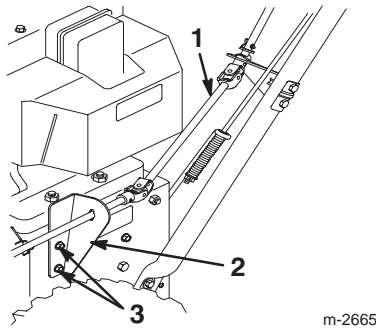

Figure 15
1. Remove the two screws from the chute control rod bracket on left side of the frame (Fig. 15).
4. Install the bracket with the two screws (Fig. 15).